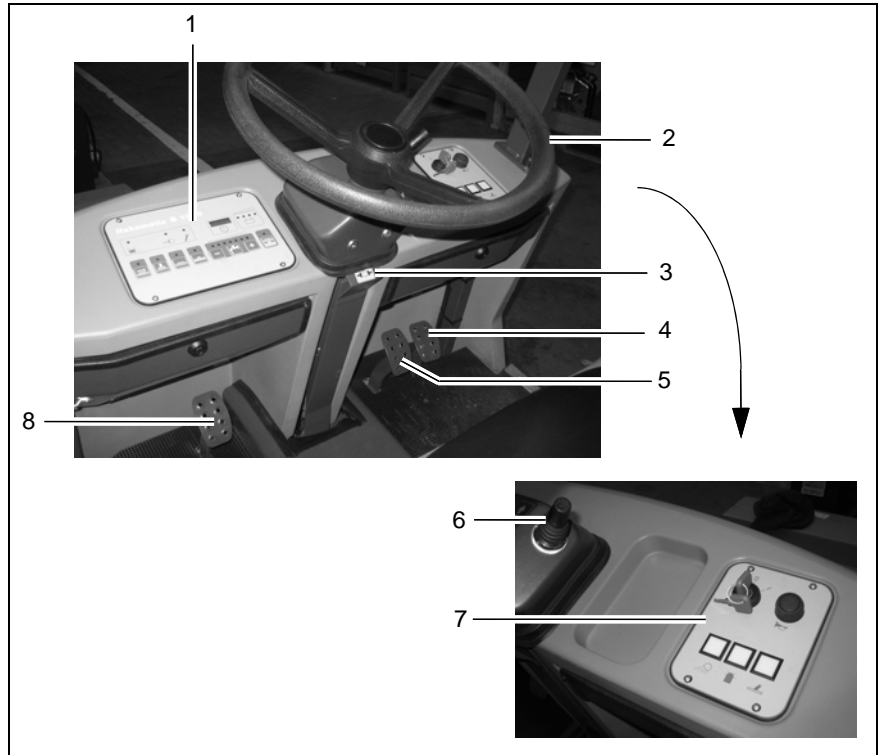
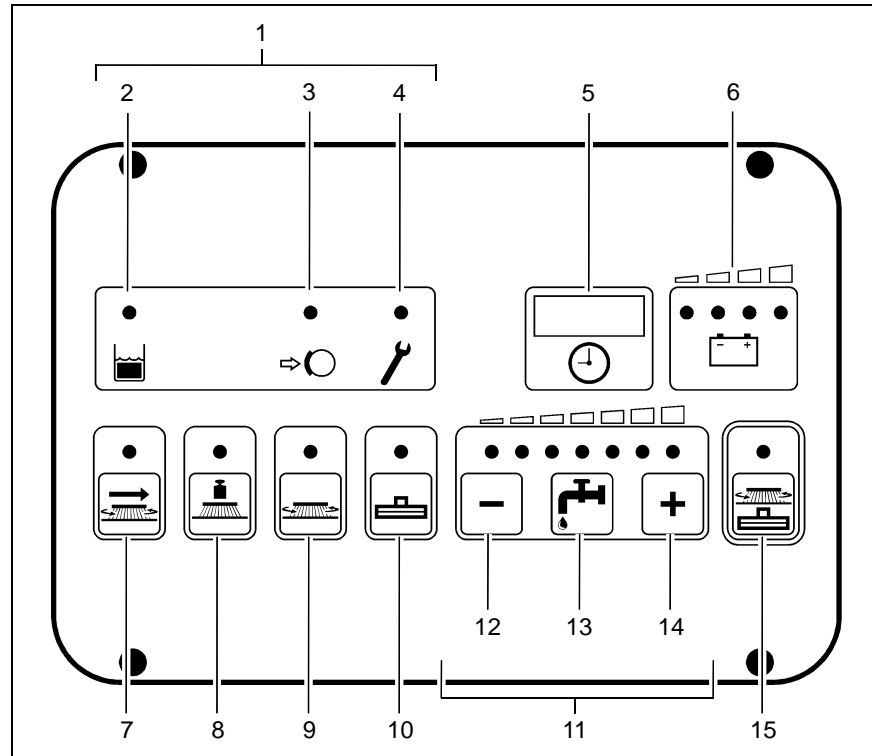

Fig. 16
Fig. 17
(Fig. 16/1)
(Fig. 16/2)
(Fig. 16/3)
(Fig. 16/4)
- Before actuating the accelerator, use the driving direction selection switch (Fig. 16/6) to set the direction of travel: forwards or reverse.
- To stop securely, apply the service brake (Fig. 16/5).
An acoustic warning signal (buzzer) is issued should the hydraulic motor overload. At the same time, the red alarm lamp (Fig. 16/4) lights up in the left-hand operating panel (Fig. 17/1) and the driving speed is reduced by approx. 50%. In addition, an error code appears in the service indicator (Fig. 17/5).
(Fig. 16/5)
(Fig. 16/6)
Right-hand operating panel (Fig. 16/7)
(Fig. 16/8)
- When the parking brake is applied, the corresponding control lamp on the operating panel (Fig. 17/3) lights up red.
Before getting out of the vehicle apply the parking brake, set the driving direction selection switch (Fig. 16/6) to its neutral position and switch the key switch to off.
(Fig. 17/1) The indicator field enables the Hakomatic B 1050 W to provide feedback on the operating status of the vehicle. This only relates to operating states which cannot be switched on or off via the operating panel: recovery tank full, parking brake applied and error messages.
(Fig. 17/2) The yellow control lamp lights up when the recovery tank has reached its maximum fill level. Also, a "beep" signal is issued every 15 seconds. In this case, a float switch switches the suction turbine off and the squeegee is raised.
(Fig. 17/3) The control lamp lights up red when the parking brake has been actuated via the pedal to the left of the steering column. If the traction drive is switched on,
Indicator for function faults (Fig. 17/4)
At the same time, a four-digit code appears in the display of the service indicator (Fig. 17/5). This error code infers which fault has occurred (refer to Section 3.5.1). At the same time, the control lamps flash and an acoustic, pulsating signal is issued.
(Fig. 17/5) The four-digit LED serves to display the operating hours.
Service indicator (Fig. 17/5)
(Fig. 17/6) After switching on the key switch, all four lamps light up when the battery is fully
(Fig. 17/7) This button is used to activate the side brush unit. After pressing the button, the two brushes start or stop rotat-
(Fig. 17/8) This button is used to increase the brush pressure. This may be necessary when the area to be cleaned is extremely dirty. The pressing force can be increased to max. 47 kg. If the function is active, the green control lamp lights up.
(Fig. 17/9) This button serves to switch the rotary brushes and solution feed on and off with simultaneous, respective lowering or raising of the brush head. If the function is active, the green control lamp lights up.
(Fig. 17/10) This button serves to switch the suction turbine on and off with simultaneous lowering and raising of the squeegee. If the function is active, the green control lamp lights up.
Buttons controlling the solution supply (Fig. 17/11)
Button to reduce solution quantity (Fig. 17/12)
Button to switch the solution supply on and off (Fig. 17/13)
Button to increase solution quantity (Fig. 17/14)
Green Hako button for simultaneous activation of scrubbing unit and vacuuming function (Fig. 17/15)